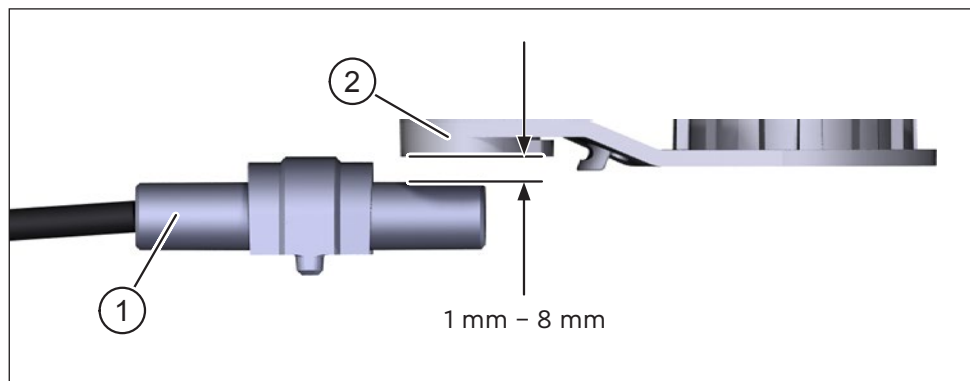

Fig. 3: Mounting – Distance between Speedsensor and magnet
The speed of the e-bike is measured with support of a magnet (item 2 in Fig. 3) which triggers pulses at the speed sensor (item 1 in Fig. 3). The Speedsensor and magnet are mounted at manufacturer with a distance between 1 mm and 8 mm (see Fig. 3) in the area of the rear wheel.